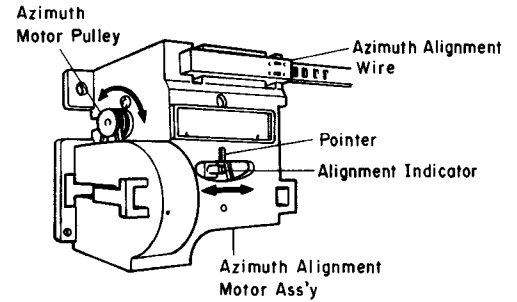

Fig. 2.15
- (a) With the Cassette Holder open, press the Forward-Play button. Adjust VR824 on the Auto Azimuth P.C.B. Ass'y so that the Alignment Indicator coincides with the Pointer in the Azimuth Alignment Motor Ass'y. Refer to Fig. 2.15.